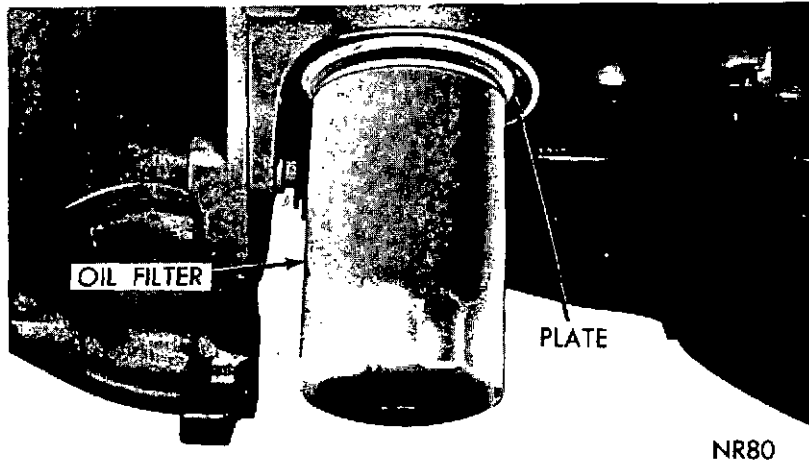

Figure 37 — Engine Oil Filter (Screw On Type)
**ENGINE OIL FILTER ("SCREW ON" TYPE) — (Figure 37):**